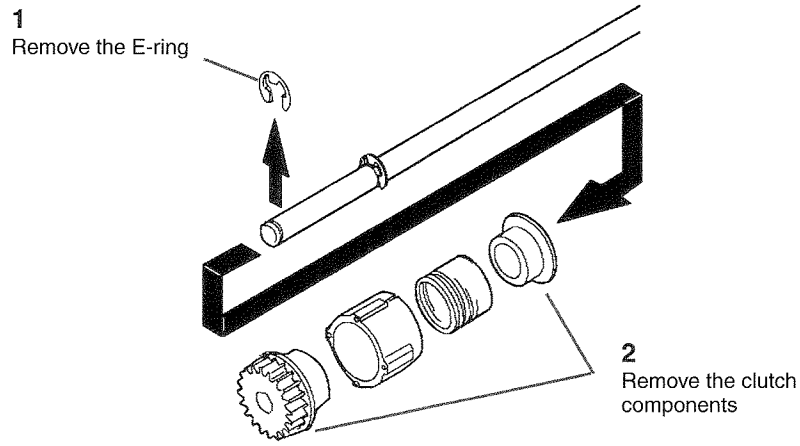

Figure 6 Removing the Clutch
6. (Figure 6 ): Remove the clutch.